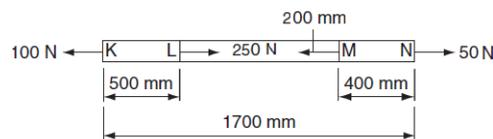

Figure 10 Question 23.
23. The figure below (Figure 10) shows a steel rod of  $25 \text{ mm}^2$  cross-sectional area. It is loaded at four points, K, L, M and N. Assume  $E = 200 \text{ GPa}$ . The total change in length of the rod due to loading is: